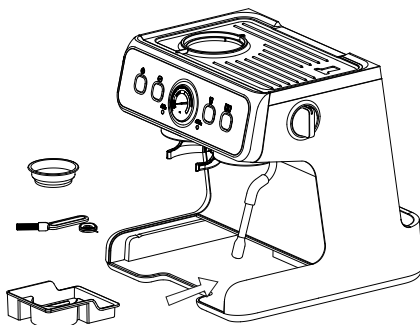

Fig. 8
The BISTRO Espresso Machine comes equipped with cleaning tools, including a Cleaning Pick and Cleaning Brush, as well as a Tool Box (15) used for conveniently storing them. Single-cup Filters and Double-Cup Filters can be stored in the Tool Box as well. The Tool Box is stored in the bottom left of the appliance, behind the Drip Tray. When the Drip Tray is removed (Fig. 8), you can access the Tool Box by simply pulling it out of the compartment.